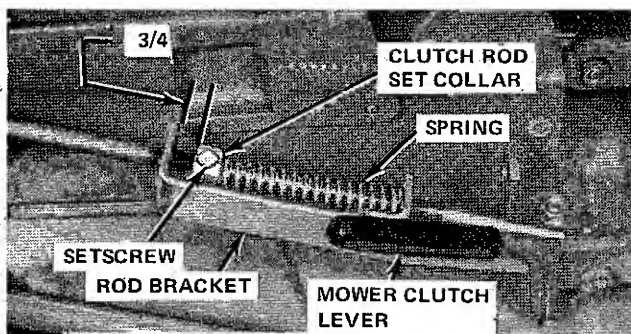

Figure 5-2. Mower Clutch Lever Adjustment
4. Mower Clutch Lever-Disengaged, lever up (Figure 5-2).
A. When mower clutch lever is engaged (lever down), there should be approximately 3/4-inch clearance between clutch rod set collar and upper leg of rod bracket (Figure 5-2). If adjustment is necessary, loosen collar setscrew, and adjust accordingly.